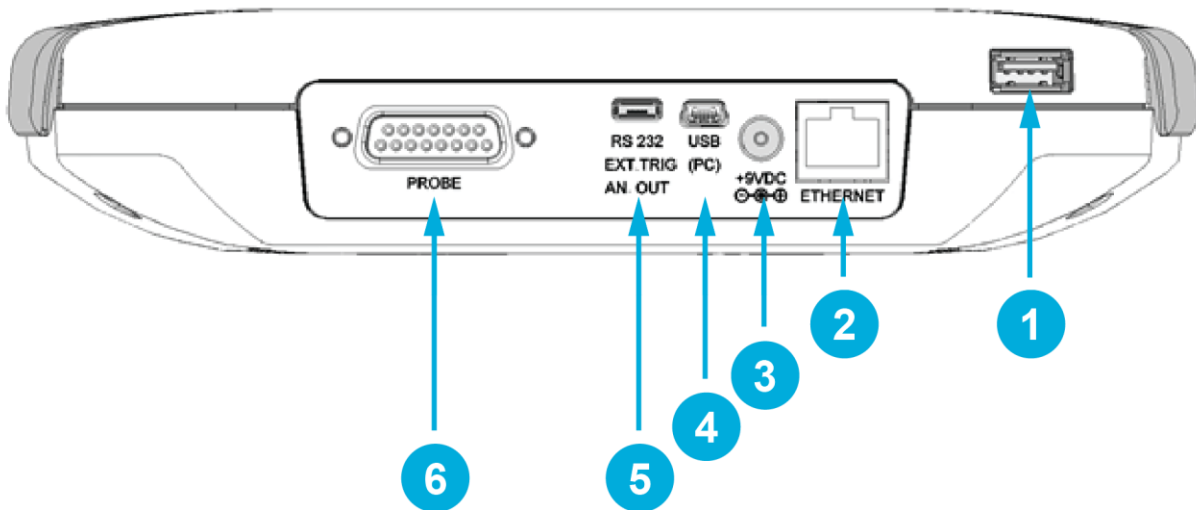

Figure 2. MAESTRO top panel
The MAESTRO is delivered ready to use. Just insert a detector head in the probe input jack (item 6 in Figure 2) and press the I/O key. The following window will appear on the monitor (Figure 4). It is separated into four different areas.